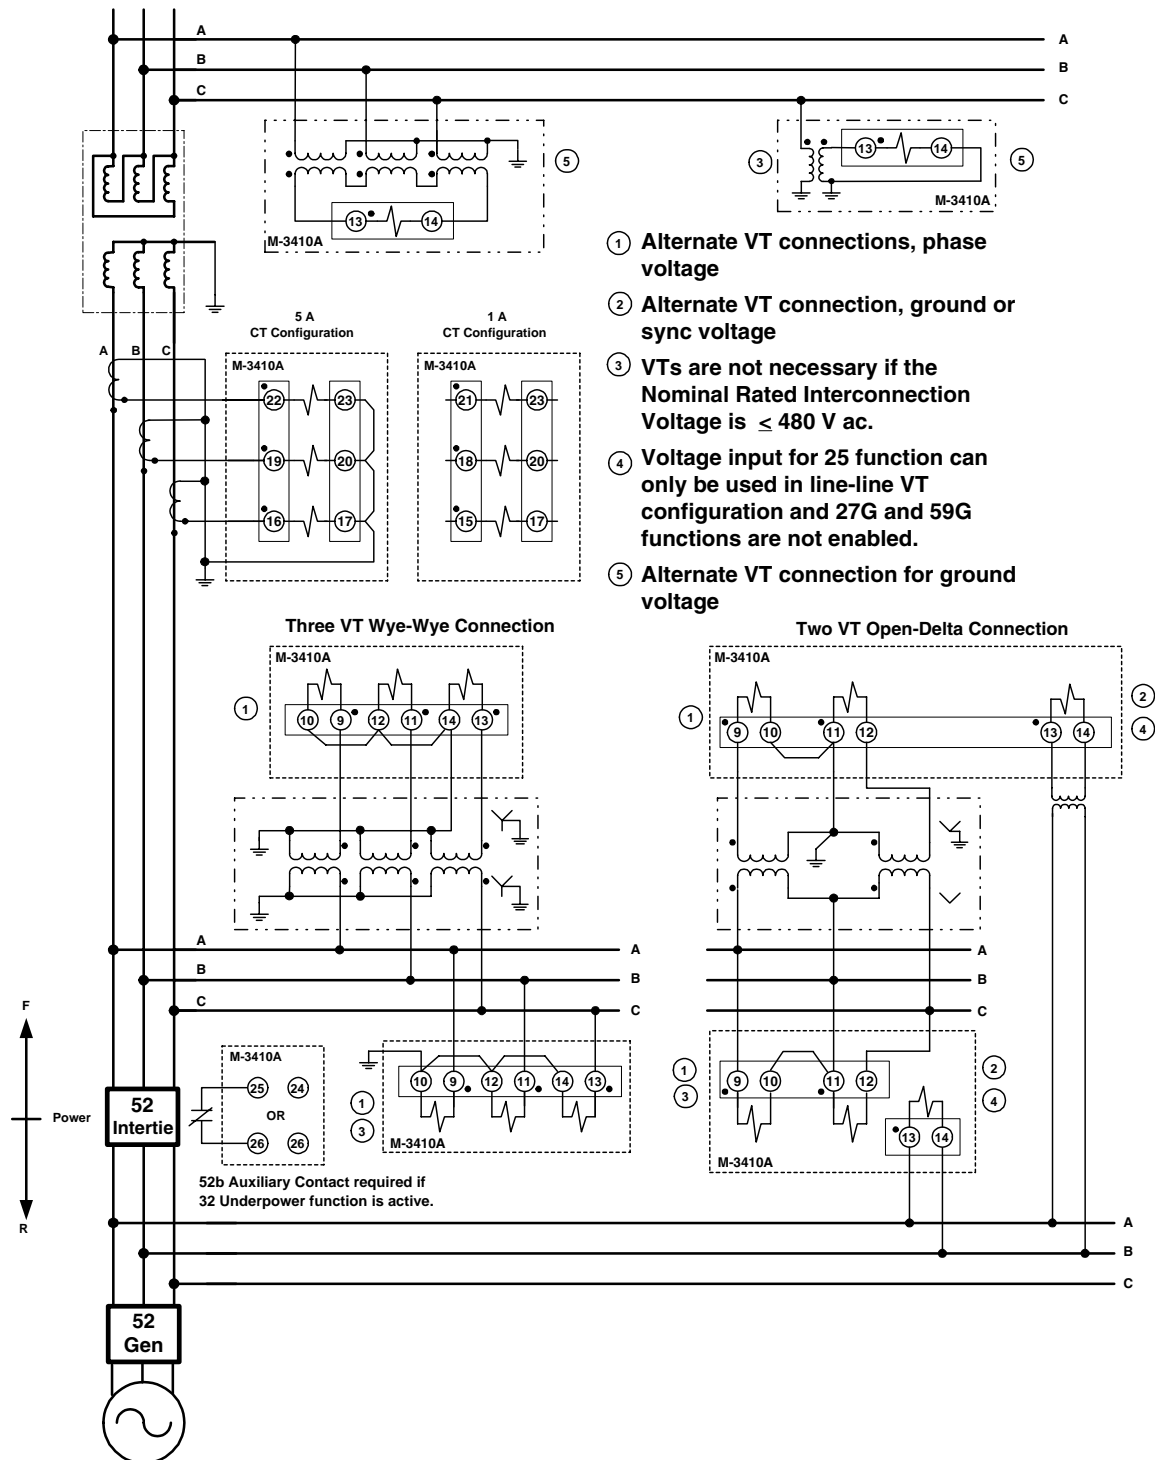

Figure 2-12 Three-Line Connection Diagram - Intertie Protection
The most common single-phase application is the three-wire system. This type is found in household and small commercial installations which are the most likely to have a single-phase generator. The wiring for this installation is shown in Figure 2-12. Since the relay and the communications software are designed for three-phase applications, the Directional Power (32) Function will operate correctly, but the measured quantity will be 1/2 of the actual value. The pickup must be set to a Per Unit (PU) of two (2) times the actual kVA, taking the 1/2 factor into account in determining the PU for the Directional Power (32) Function. The power displayed on the primary status monitoring screen will be 1.5 times the actual kVA, and on the secondary status monitoring screen will display 1 PU of the three-phase base power calculated by the relay.